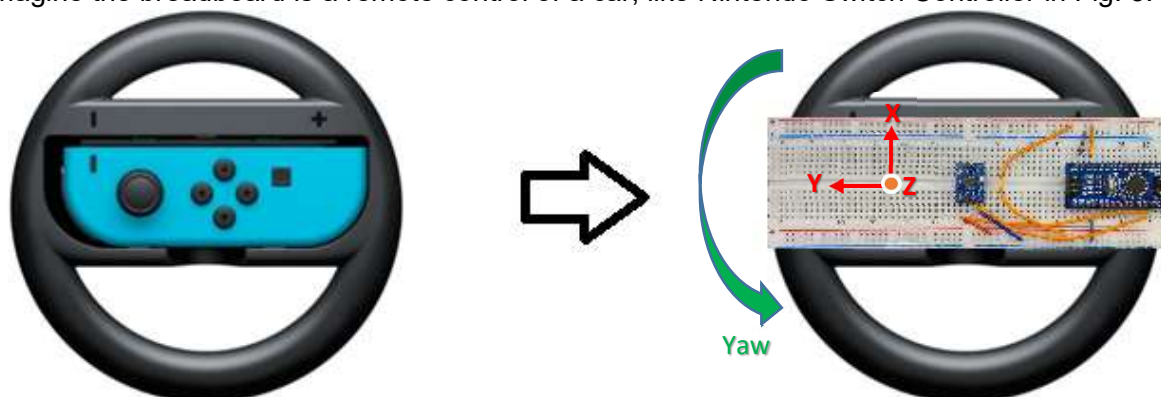

Fig. 3 – Use the Arduino Nano with GY-25Z as motion gesture control
Imagine the breadboard is a remote control of a car, like Nintendo Switch Controller in Fig. 3.
- (ii) The car stops when the breadboard holds as Fig. 3.